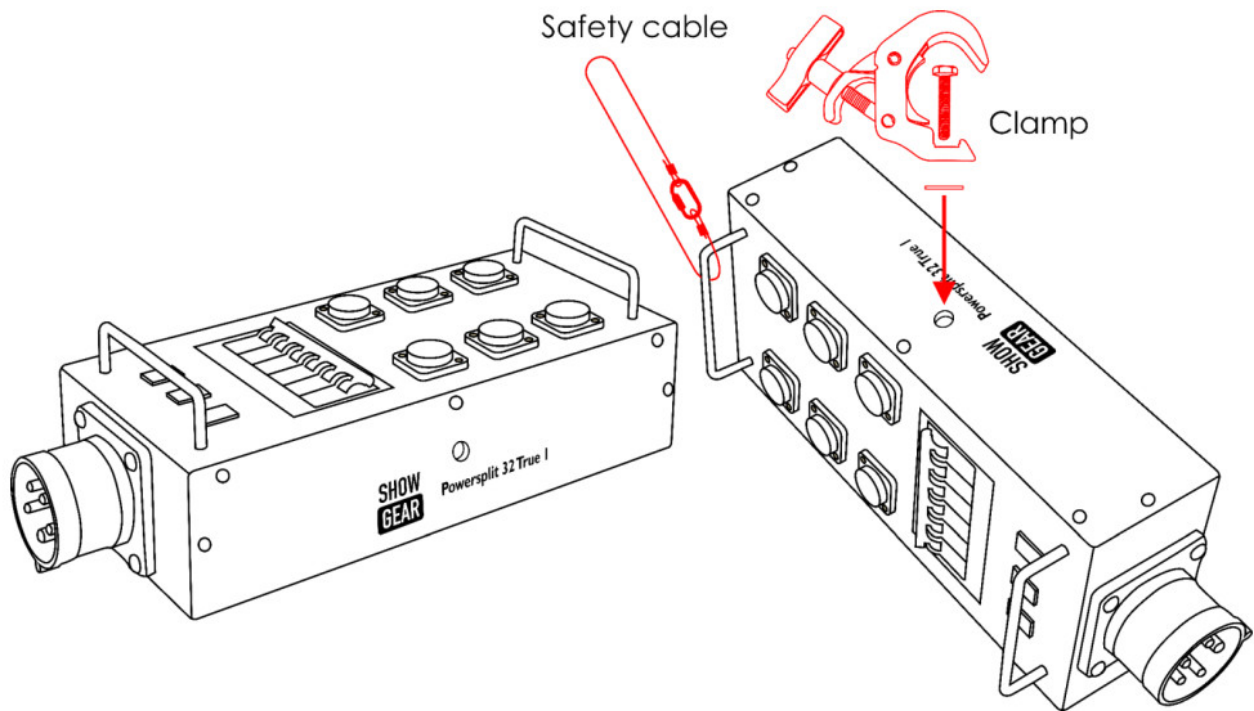

Fig. 05
1. Install the clamp, as shown in Fig. 05. Make sure that the clamp is suitable for attaching the device to a truss.
3. Secure the device with a secondary suspension, for example a safety cable. Make sure that the secondary suspension can hold 10 times the weight of the device. If possible, the secondary suspension should be attached to a supporting structure independent of the primary suspension. Put the safety cable through the handle, as shown in Fig. 05.